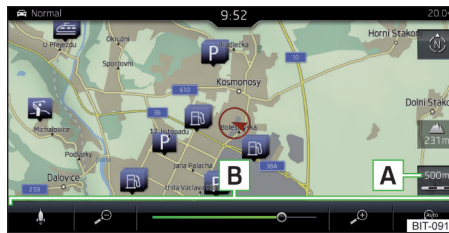
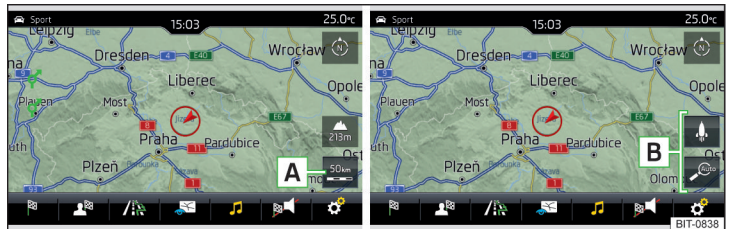

Fig. 239
Fig. 240 Function surfaces for changing the map scale: Infotainment Amundsen
- ▶ Tap on function surface **A** » **Fig. 239** or » **Fig. 240**.
In area **B** » Fig. 239 or » Fig. 240, function surfaces for changing the map scale are displayed.
- ▶ Tap the function surface **A** » Fig. 239 and use the slider or tap the function surface  /  in area **B** » Fig. 239 (applies to Columbus Infotainment).